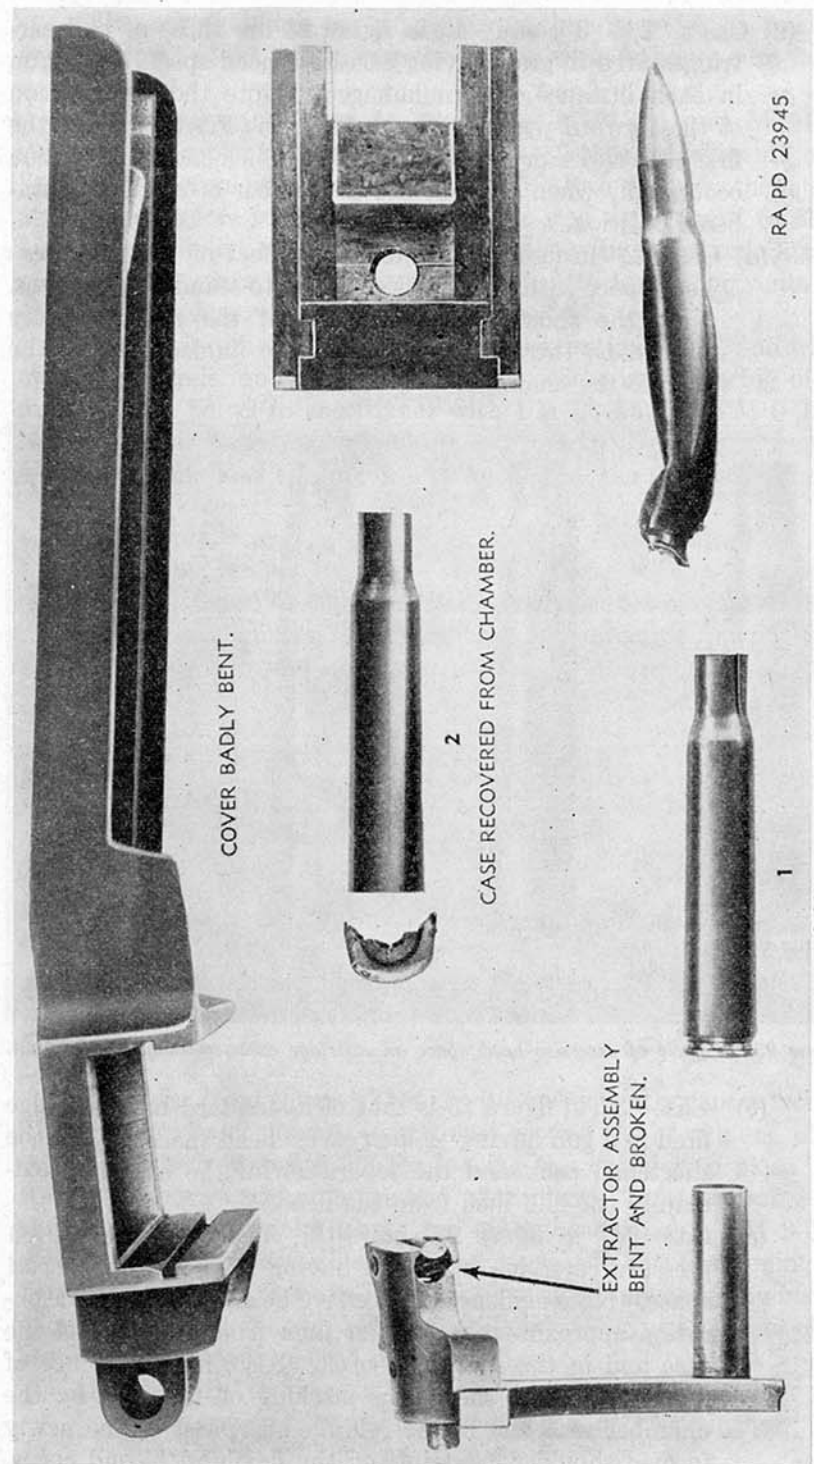

Figure 24. Damage caused by case with split neck, cal. .30 machine gun.
(1) *Cartridge Case With Split Neck.* Figure 24 exhibits damage to a gun from a round having a case with split neck.
- (a) A live round with a split case neck was chambered in the gun. For some reason the bolt was retracted, extracting the case, but leaving the bullet in the chamber. The extracted case was ejected (1, fig. 24) and a second live round chambered. When the chambered cartridge was fired the case ruptured (2, fig. 24). The explosion ignited the cartridge lying directly above in the feedway, rupturing the case, and releasing additional gases into the action (3, fig. 24).